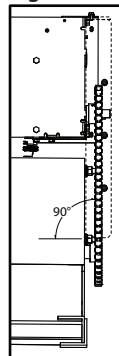

Figure 4
- 9) Wrap #41 roller chain around both sprockets and join with connecting link. **FIG. 4 & 5.**